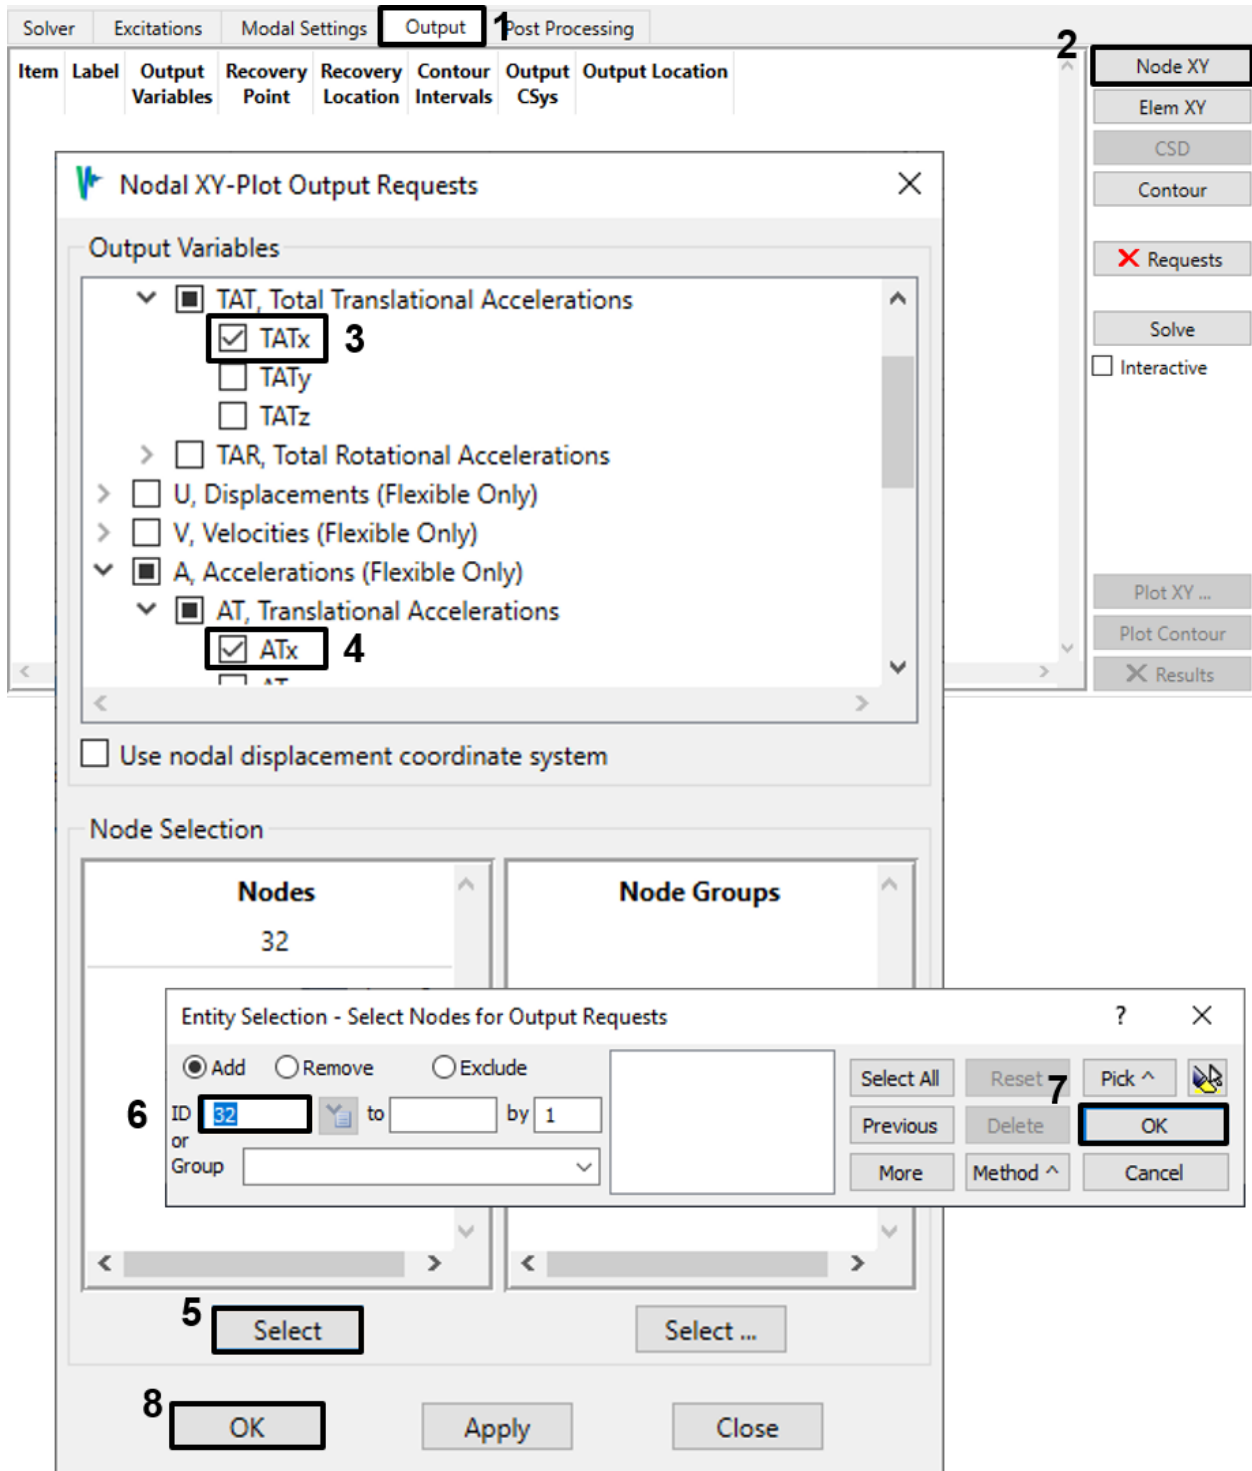
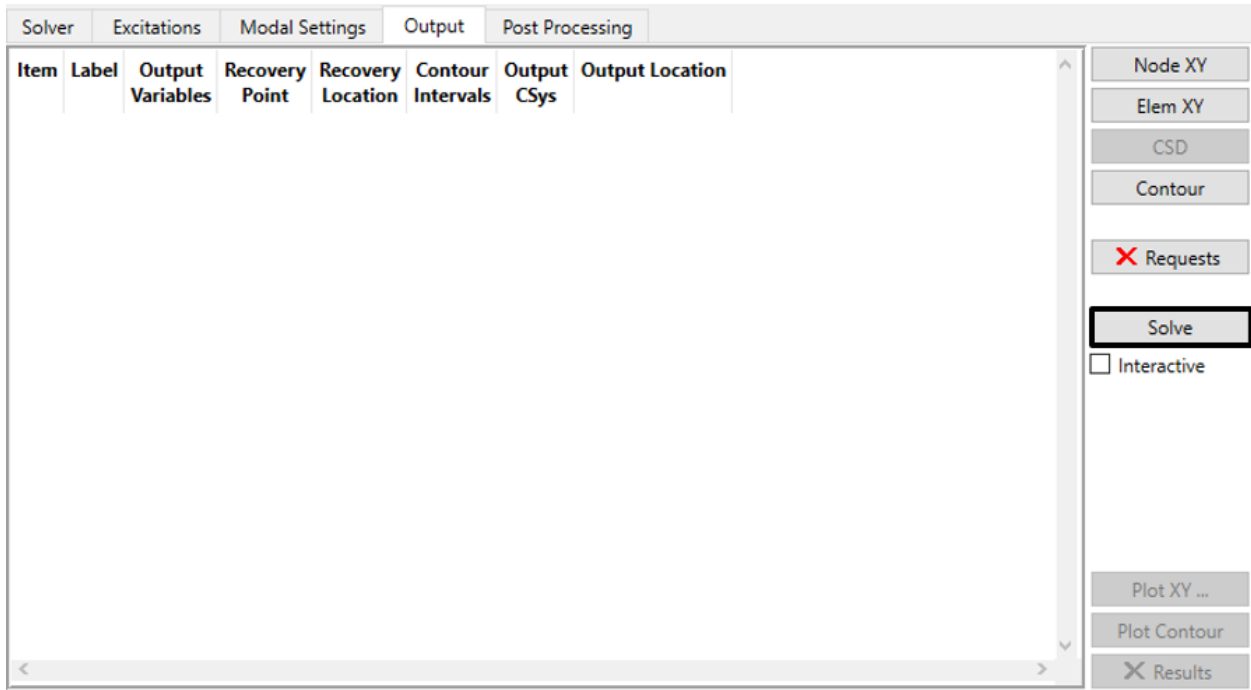

Figure 4-14. Request XY output for total and flexible X-accelerations at node 32.
Figure 4-15. Solve for the requested output.
5. Create a Node XY output request for the free DOF. Select the *Output* tab. Request X-direction output at node 32 for Total Accelerations (*TATx*) and Relative Accelerations (*Atx*), as shown in Figure 4-14. When you click **OK** or **Apply** on the *Nodal XY-Plot* dialog, the request appears in the output request table as shown in Figure 4-15.
a. On the Output tab, click Solve (Figure 4-15) to compute the frequency response.